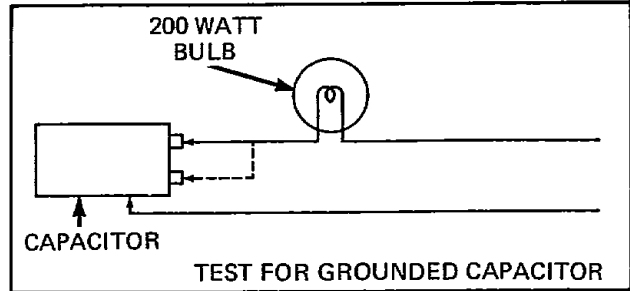

Figure 61
- Apply one "live" test lamp probe to case of capacitor and the other one to a capacitor terminal, *Figure 61*; "live" test lamp should not light.